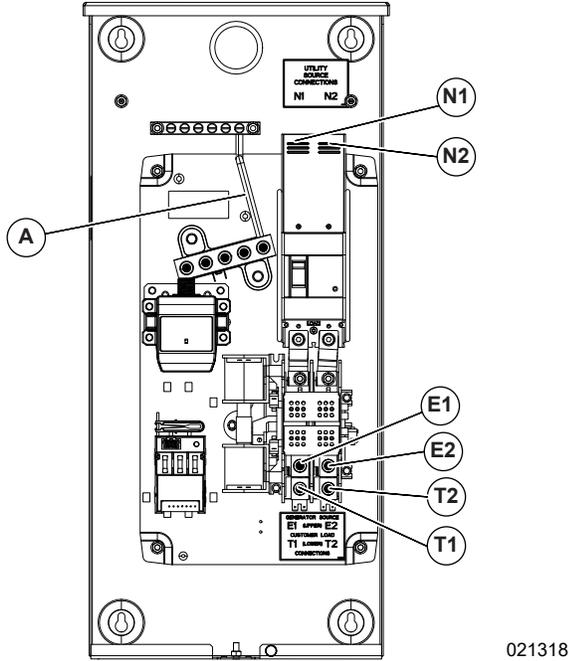

Figure 3-4. Wiring Connections
2. See Figure 3-4. Connect utility neutral and ground to Neutral and Ground terminals. Neutral and Ground terminals are bonded to each other with a jumper wire (A).